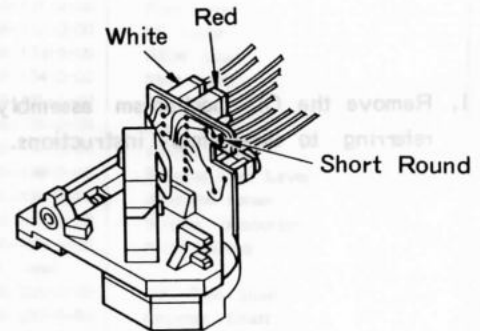

Figure 11
7. Place shorting round as shown in Figure 11 and remove both wire connectors.